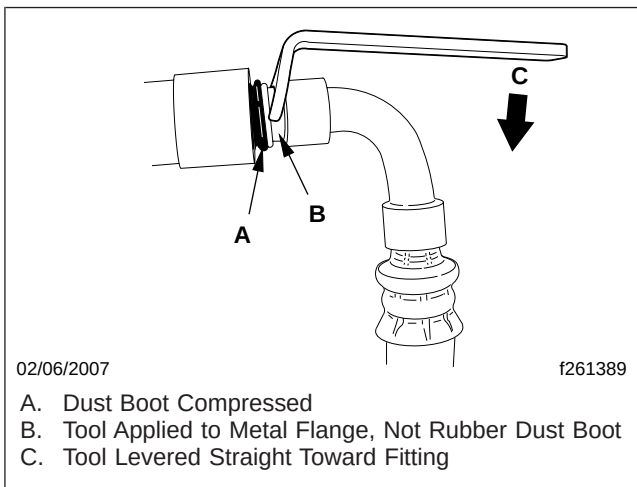

Fig. 17, Quick-Disconnect Fitting Removal with Kent-Moore Tool J-48548
- 14.5 Push the installed connector straight into the port until it stops and the rubber dust boot is compressed; see Fig. 17.
- 14.6 While holding the male fitting compressed into the female port, squeeze the flat face of the tool handle toward the male fitting, to release the snap connection; see Fig. 17. Use the tool so that pressure is equal on both ears, where they push against the lower male fitting. Do not twist the tool sideways, or apply unequal pressure to either ear of the tool where it forks around the fitting.